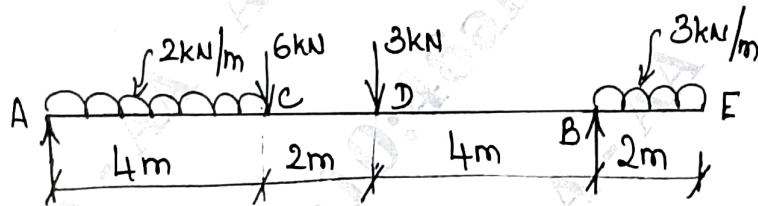

Fig Q8(a)
- 8 a. Draw BMD and SFD for the given beam as shown in Fig Q8(a).